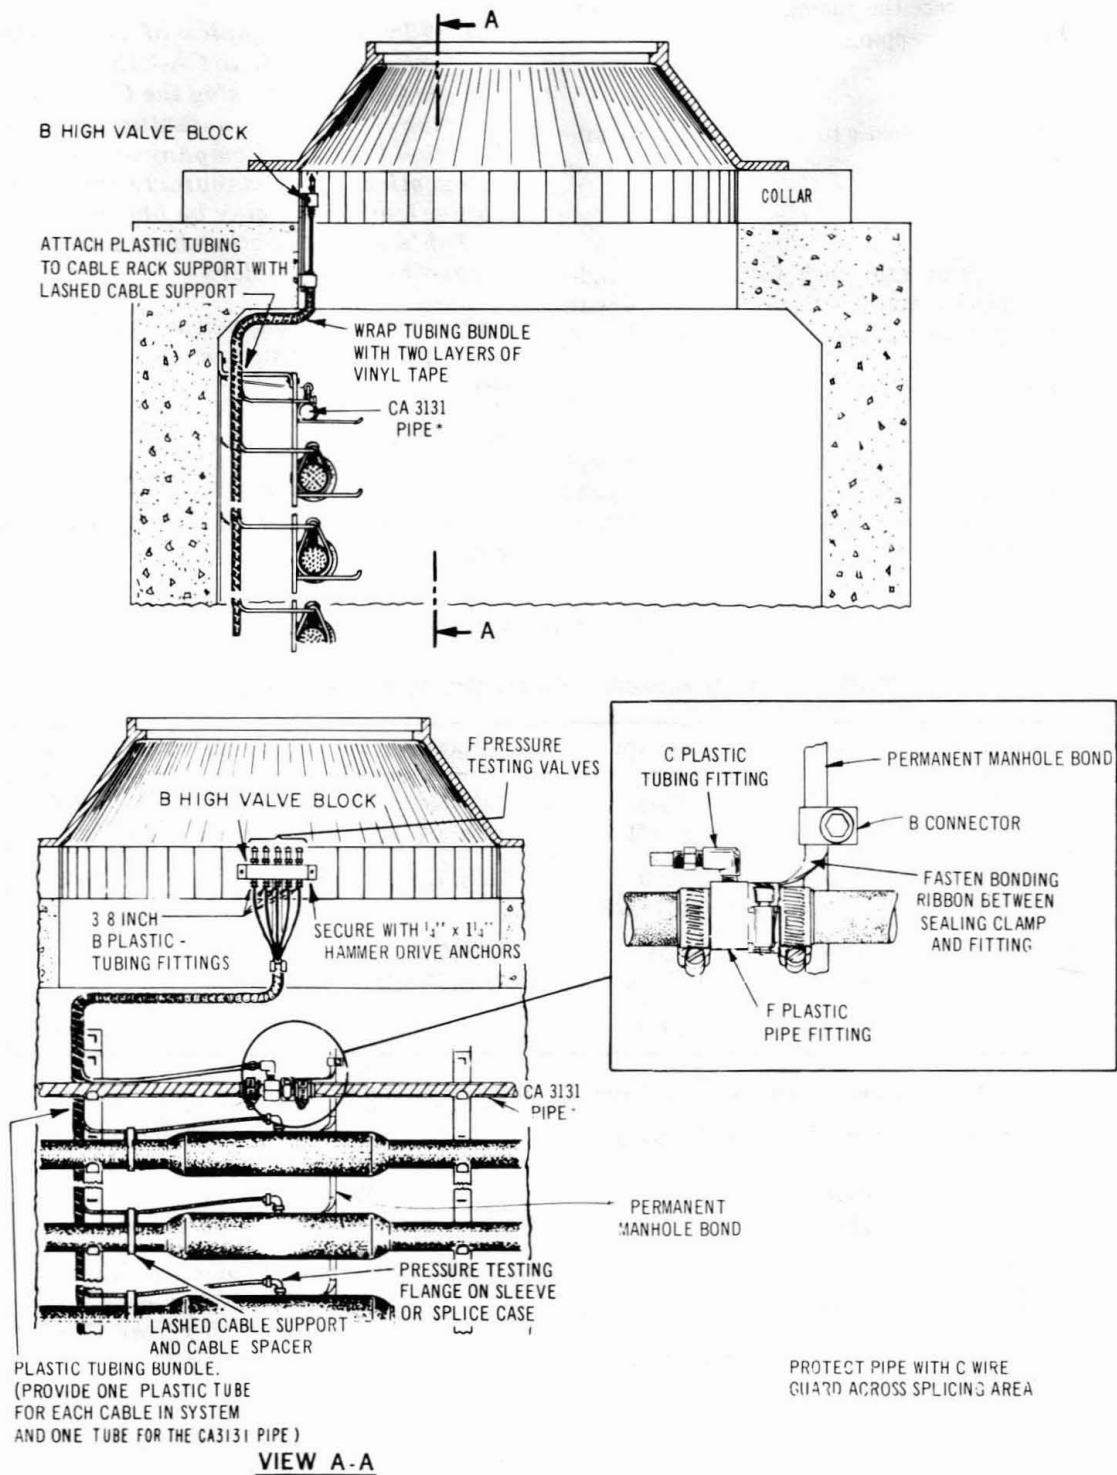

Fig. 2—Arrangement in Manhole Having High-Valve Block
4.02 If a B high-valve block is selected in lieu of or in addition to the F transducer, attach the high-valve block on the vertical surface of the manhole collar as shown in Fig. 2. Locate the block so that it will be off the line of pull for subsequent cable placing or removing operation. Where additional blocks are required, they should be installed adjacent to and at the same level as the first block.
4.05 Bundle and wrap the plastic tubings from each block with two layers of vinyl tape, starting about 1 inch above the tubing clip and extending so as to protect the tubing around the bend of the manhole roof (Fig. 2). Bend the tubing clip around the taped bundle of tubing. Form the tubing bundle along the manhole roof and down the wall adjacent to the cable rack supports. Secure the tubing bundle to one of the rack supports with a lashed cable support. Wrap the bundle with two layers of vinyl tape under the lashed cable support.
4.10 At each monitoring manhole and all pipe splices, it will be necessary to bond the pipe to the permanent manhole bond with bonding ribbon, as illustrated in Fig. 2.